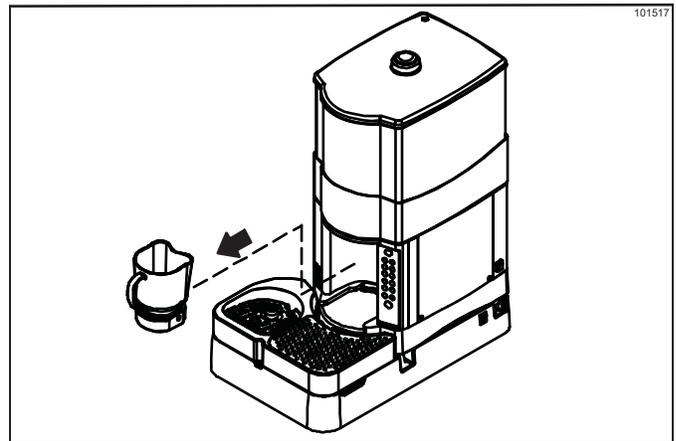

Figure 6-11
- Remove the blender pitcher and discard the ice into the back sink. (See Figure 6-11.)